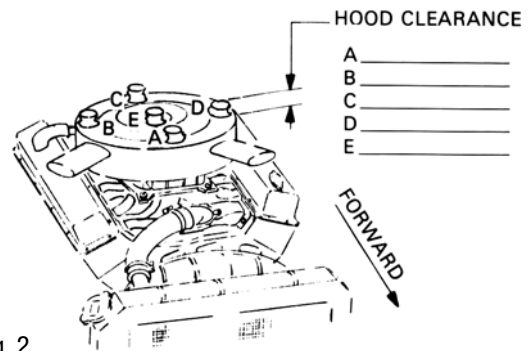

Fig. 2
For cylinder numbering and firing order, see Figure 2.
4. See Figure 2 and record measurements in blank spaces labeled A-B-C-D-E.